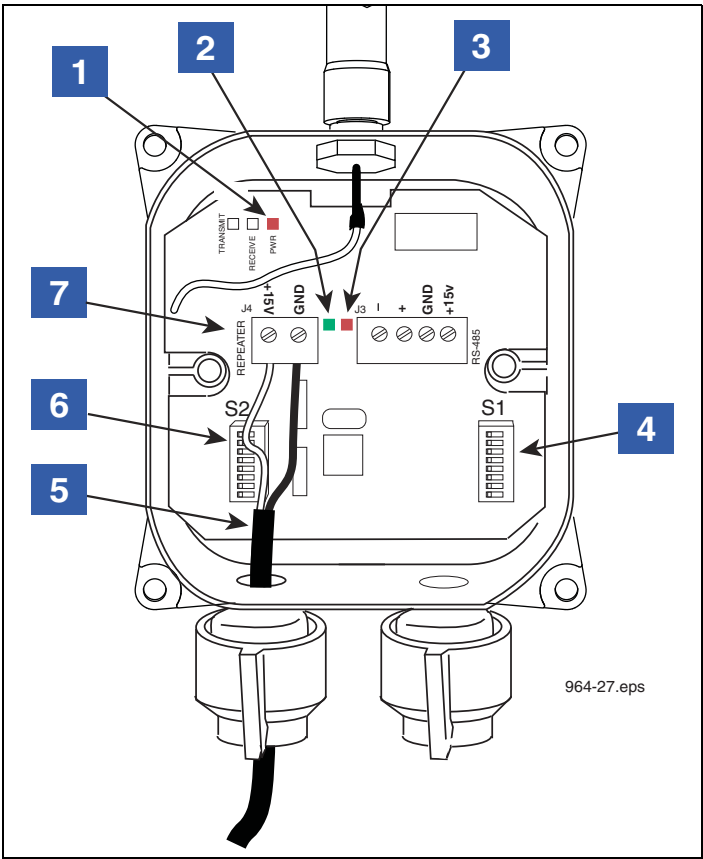

Figure 24. Wiring The Repeater
9. +15 Vdc power source for the Repeater. If used, connect two wires from item 9 connector in Receiver to item 7 connector in Repeater, see Figure 24.
4. Note the cover of the Repeater indicates the cord grip to be used for the cable connecting the Repeater to its dc power source (item 5 in Figure 24). Remove the cover of the Repeater and set it aside.
6. Connect the 2-wire dc power cable to the Repeater terminal block, white to +15 Vdc and black to GND (see item 7 in Figure 24).
LEGEND FOR NUMBERED BOXES IN Figure 24